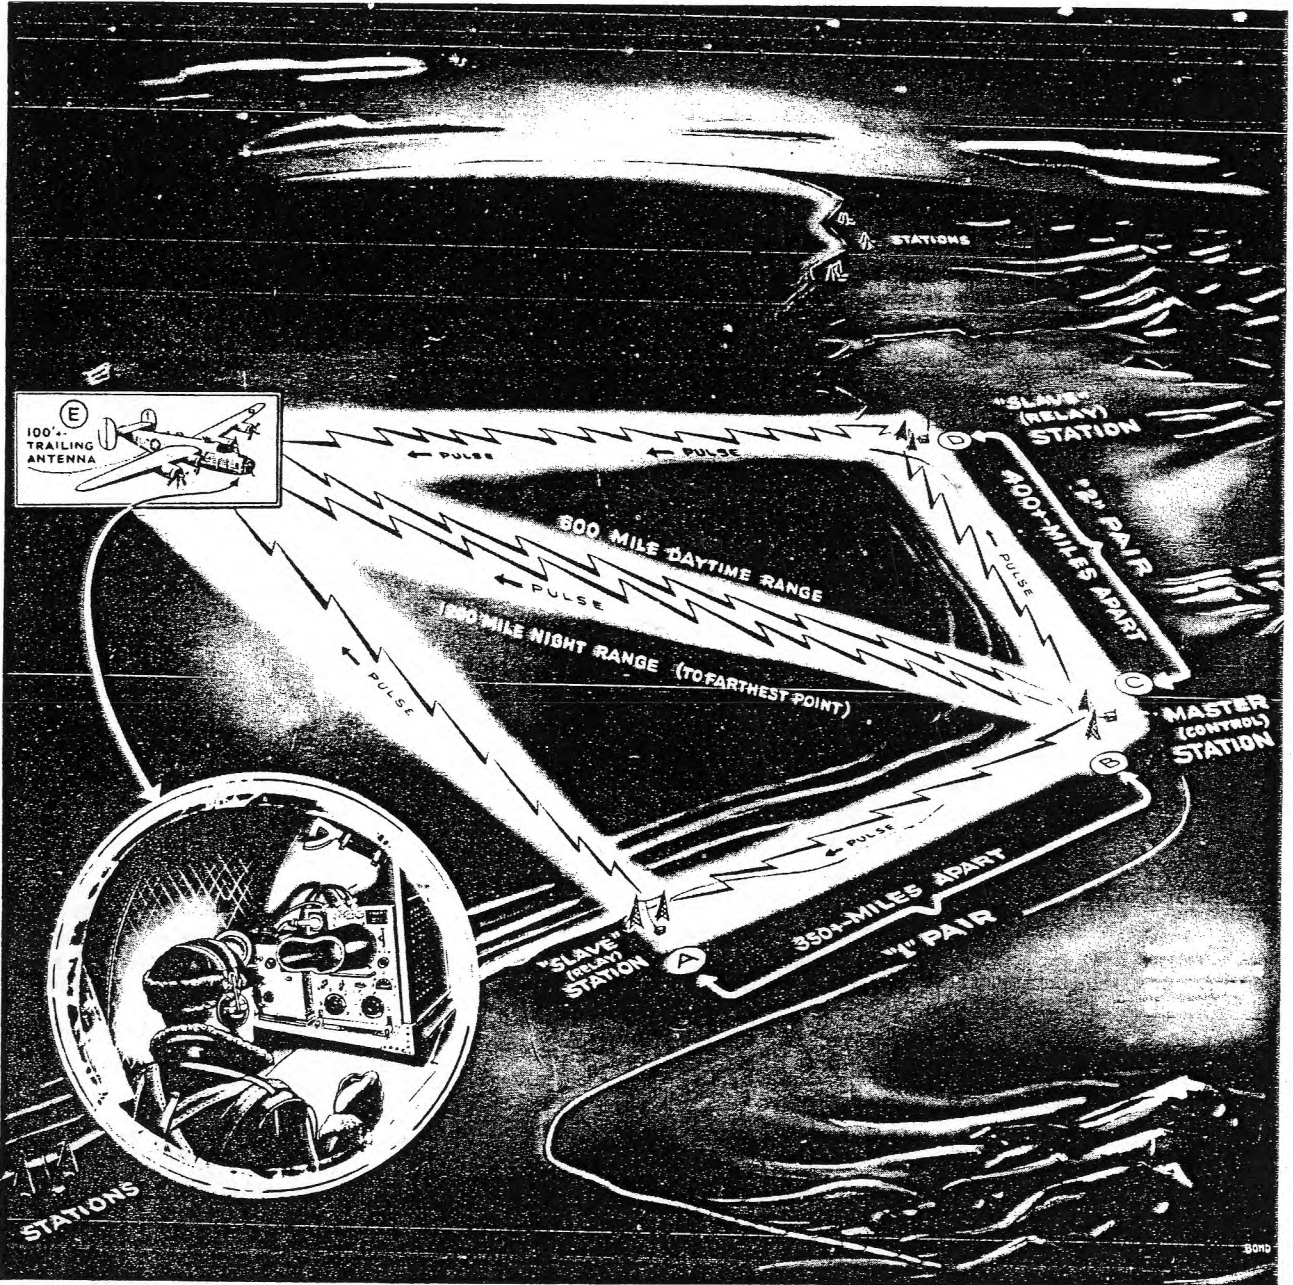
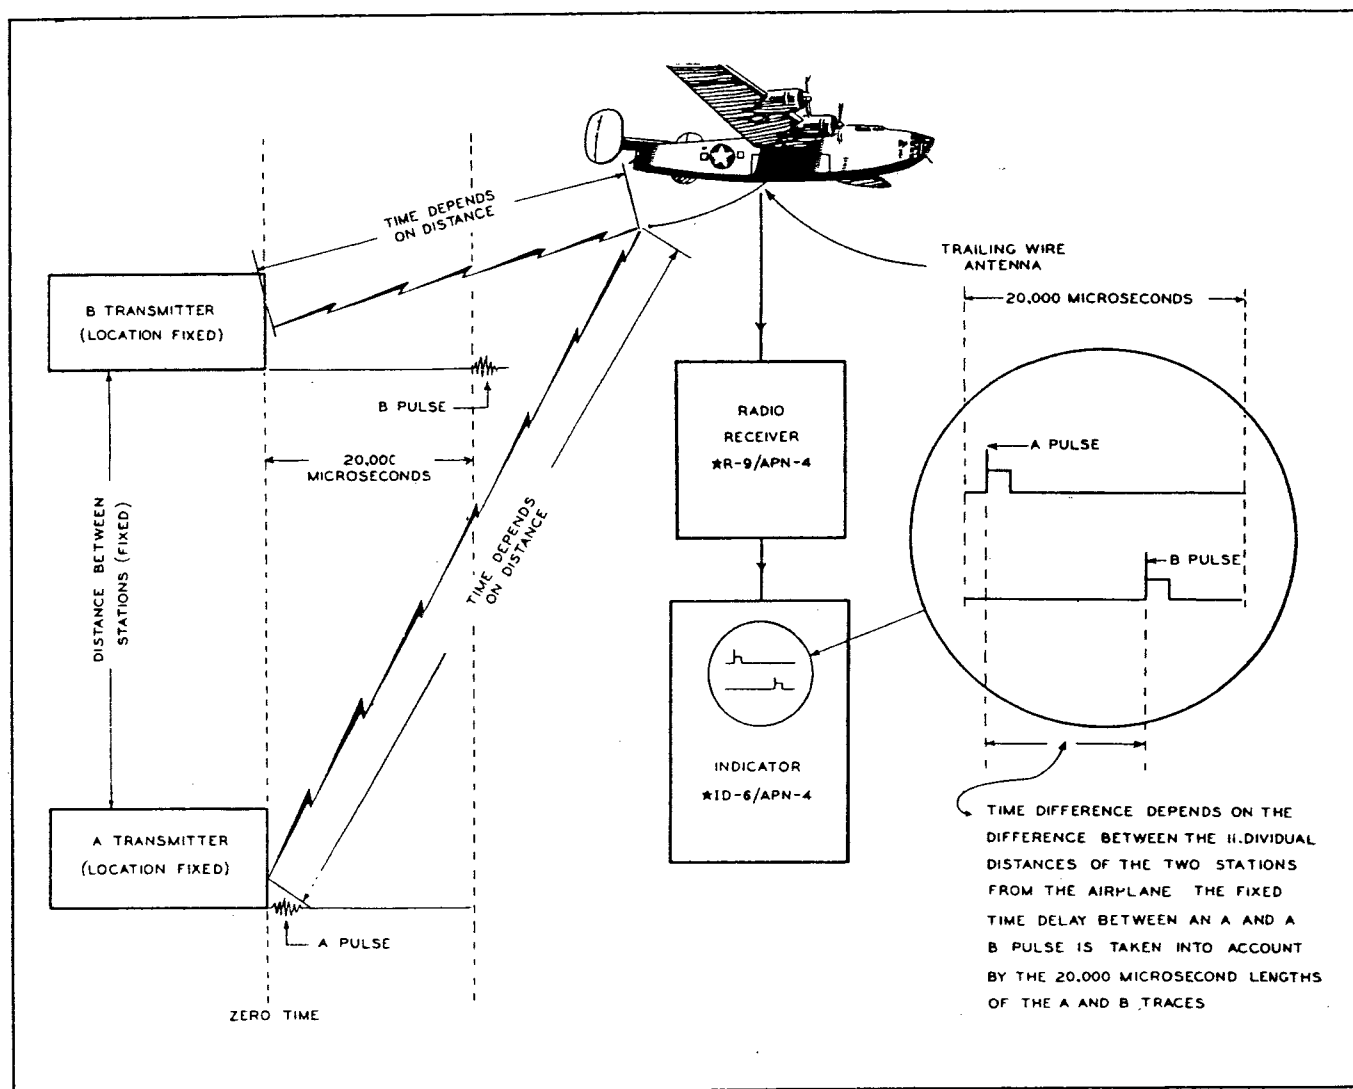

Figure 4-1. LRN (Long Range Navigation) System
Figure 4-3. Line Sketch Showing Principle of LRN System
a. GROUND SYSTEM.—The ground system consists of a chain of radio transmitting stations, located at intervals along the shoreline, which transmit pulse-modulated signals at various carrier frequencies and pulse recurrence rates. See figure 4-3 for a general picture of the system. These stations are arranged in groups of eight pairs of stations, numbered "0" through "7." All the stations within a group operate on the same carrier frequency and each group operates on one of the four r-f channels which lie within the two frequency bands of 1.6 to 3.3 and 7.58 to 11.75 megacycles per second. The lower frequencies are used for long distance night-time transmission; the higher frequencies for day-time transmissions. Although all eight pairs of stations of one group operate on the same carrier frequency, each pair within the group transmits at a different pulse recurrence rate. One station of a pair is known as the master station, and the other as the slave station. The master station (station A) of one pair transmits pulses (at a predetermined recurrence rate) which are received by the slave station (station B) of the same pair. Station B is triggered by the received pulses and consequently transmits a train of pulses similar to that transmitted by the A-station. However, each pulse transmitted by the B-station will be delayed from the corresponding pulse transmitted by the A-station by an amount determined partially by the distance separating the two stations and partially by a time delay circuit at the B-station. The approximate delay time is 20,000 microseconds. See figures 4-1, 4-2, and 4-3 for help in understanding the system. Each succeeding pair of stations 0 to 7 of each group has a recurrence rate of 1/16 of a cycle per second higher than the preceding pair. A cycle as used here refers to the time period between succeeding pulses transmitted by a station of pair 0. Stations A and B of station pair 0 each operate at a pulse recurrence rate of 25 cycles per second which represents an interval between pulses of 40,000 microseconds. Stations A and B of station pair 1 operate at 25-1/16 cps; stations A and B of station pair 2 at 25-2/16 cps; etc. These differences in pulse recurrence rate from pair to pair permit the selection of signals from any specific pair within a group for observation. The time difference between the transmission of the A and B stations provides a means for determining which of the two pulses of a pair received by Radio Set ★AN/APN-4 is an A and which is a B pulse.